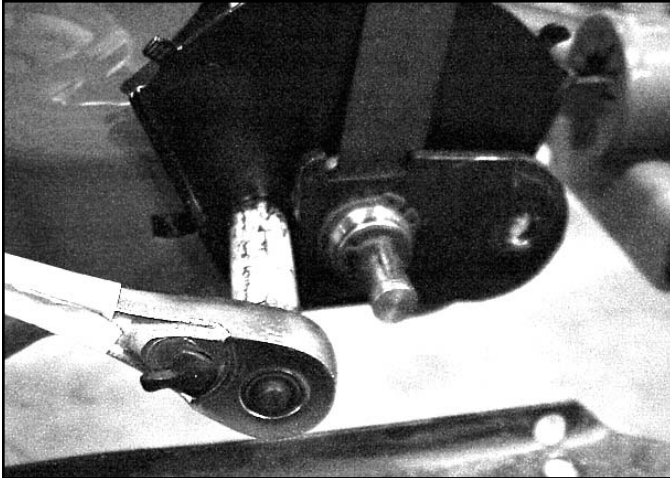

Fig 045
9. Remove the two bolts and nuts securing each pivot arm to the housing. There is a notch in the pivot arm for clearance of a socket (Fig. 045).